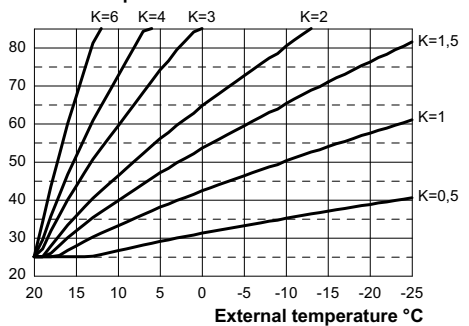

Fig. 7.16
If the boiler is **EQUIPED** with the remote control (optional) refer to Fig. 7.16.
When installing the external probe it is necessary to set this parameter based on the efficiency of the heating plant in order to optimise the flow temperature (Fig. 7.16).
E.g. In order to have a flow temperature at the heating plant of 60°C with an external temperature of -5°C, set a K at 1.5 (sectioned line in Fig. 7.16).
- Using keys 10or 11it is possible to change the value of parameter 15 from a minimum of **01** to a maximum of **60** based on the selected bend of the K coefficient in Fig. 7.16 (the value read on the display corresponds to K coefficients decimal values).